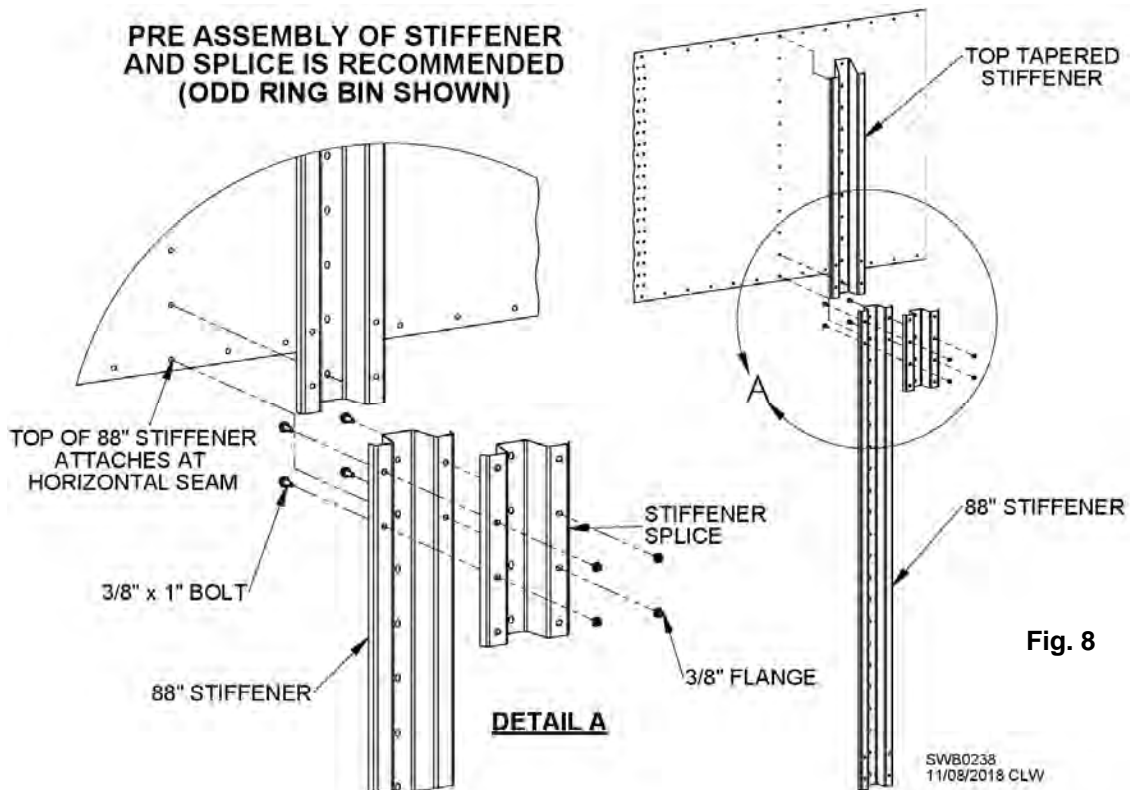

Fig. 8
Attach stiffener splice using 3/8 x 1" bolts and 3/8" flange nuts. **NOTE:** When next stiffener down increases in gauge thickness, stiffener splice plate must also increase in thickness. Always use same gauge splice plate as heaviest stiffener being spliced. Place eight (8) bolts in splice flanges and four (4) bolts through stiffener, neoprene washer and bin sidewall. See Fig. 8.